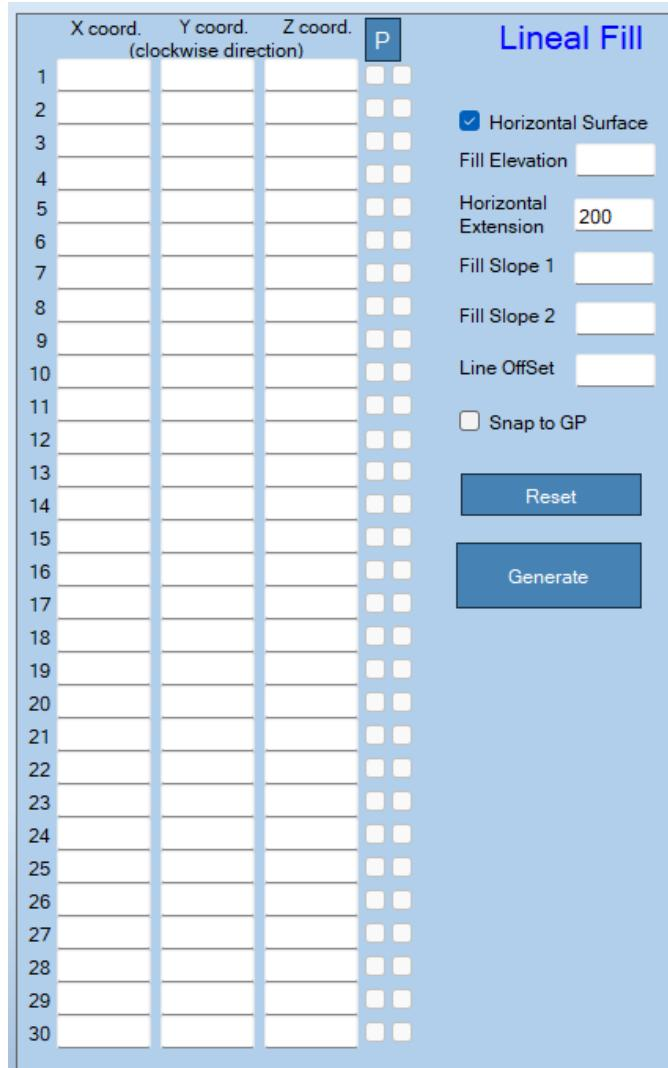

Figure 28: 3D Surfaces Menu – Linear Fill.
- **3D Surfaces Menu, Linear Fill:** This option (shown in Figure 28) defines a Linear Fill landform over any given surface (see 3D example in Section 10.2.3).